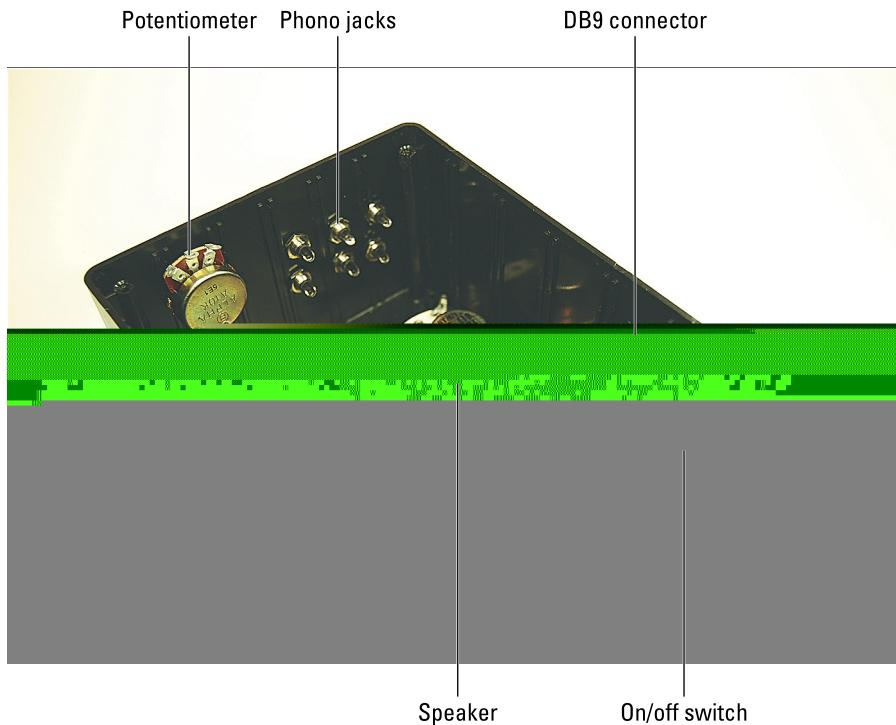

Figure 4-11:
1. Drill holes in the box for the phono jacks, potentiometer, speaker, DB9 connector and on/off switch in appropriate locations (along the lines in Figure 4-11).
Follow Figure 4-11 as a guide.